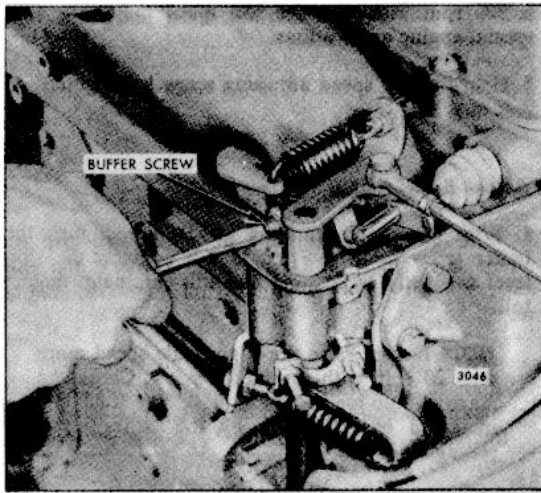

Fig. 7. Adjusting Buffer Screw
- With the engine running at idle speed, turn the buffer screw in (Fig. 7) so that it contacts the stop lever as lightly as possible and still eliminates engine roll.